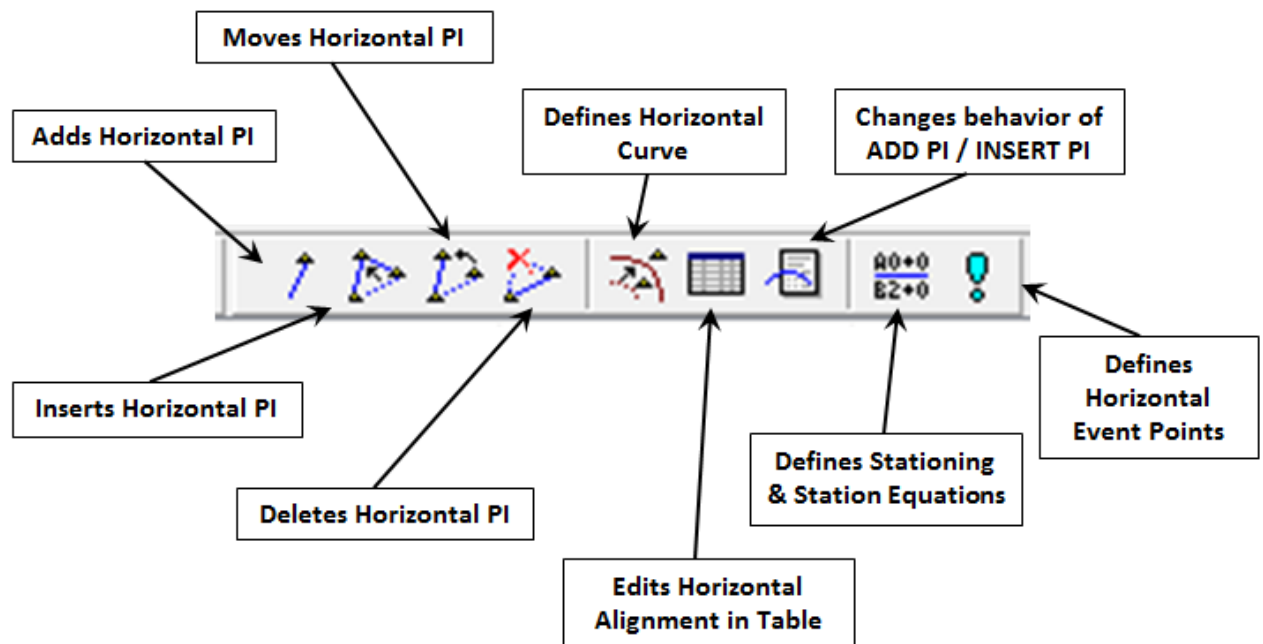

Figure 4-2 InRoads Horizontal Curve Set Toolbar
- A. Click on **Tools > Customize**. On the Toolbars Tab, toggle to the **Horizontal Curve Set, Vertical Curve Set and Locks**. Click on **Close** and dock them in a logical place on the InRoads Dialog box. Bring your pointer over each tile in the Horizontal Curve Set toolbox and see the associated command with each horizontal design tool as shown in Figure 4-2.